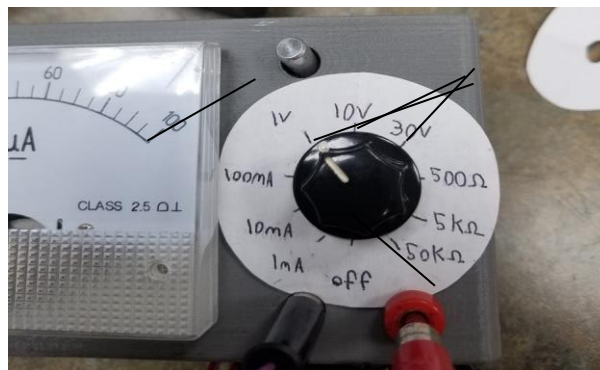

Figure 5-5
1. Turn the rotary switch clockwise until it reaches one of three ranges of voltage (Figure 5-5). These ranges indicate the maximum amount of voltage that the meter can handle. When at max, the dial from the meter will be at the end point.